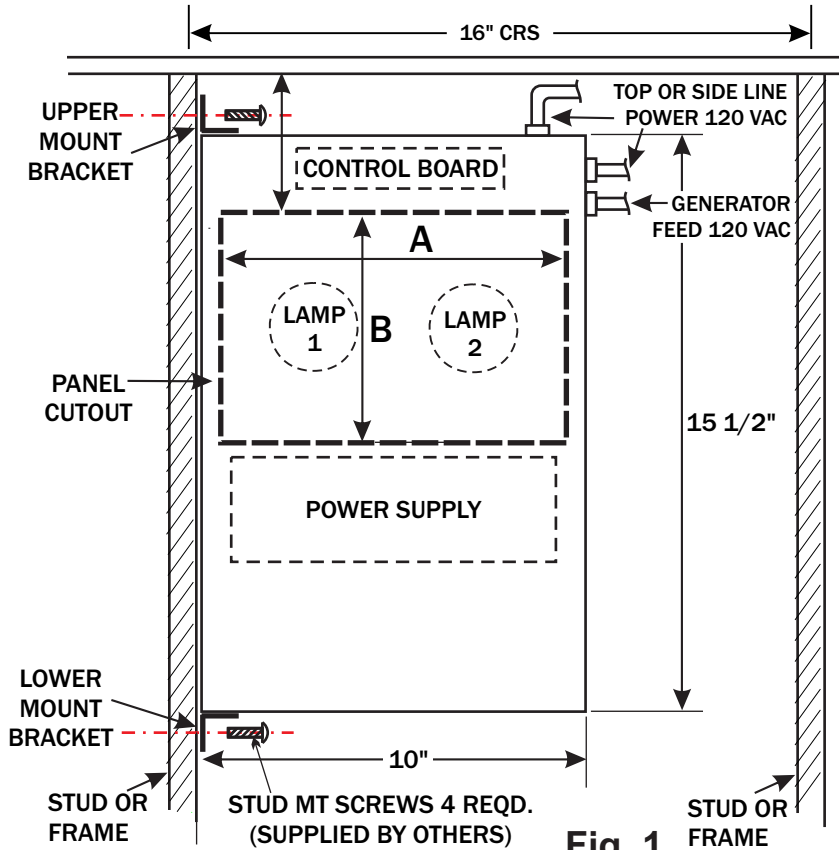

Fig. 1
1. See Fig. 1. Route Line and Neutral 120 VAC or 277VAC normal and generator input power wiring into back box (4 wires).